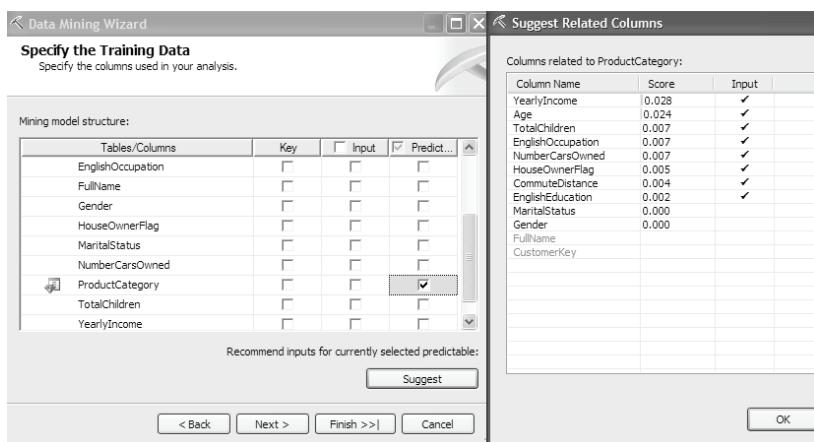

Figure 7.12 The Suggest Related Columns dialog samples case data and suggests input columns.
6. In the *Specify the Training Data* step (Figure 7.12), you need to identify the input and predict columns. In our case, we need to predict the classes of customers that will buy a bike. Therefore, we only need one predict column. Select the *ProductCategory* column as both an Input and Predict column (*Predict Usage* type).